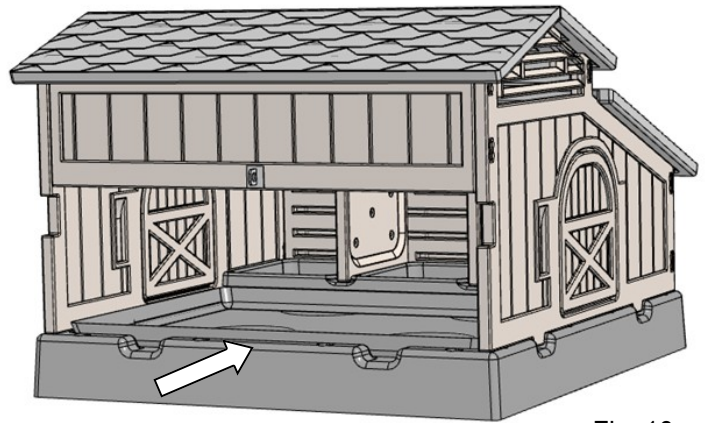

Fig. 10
Step 10: Install the Litter Tray by simply sliding it in. (Fig. 10)